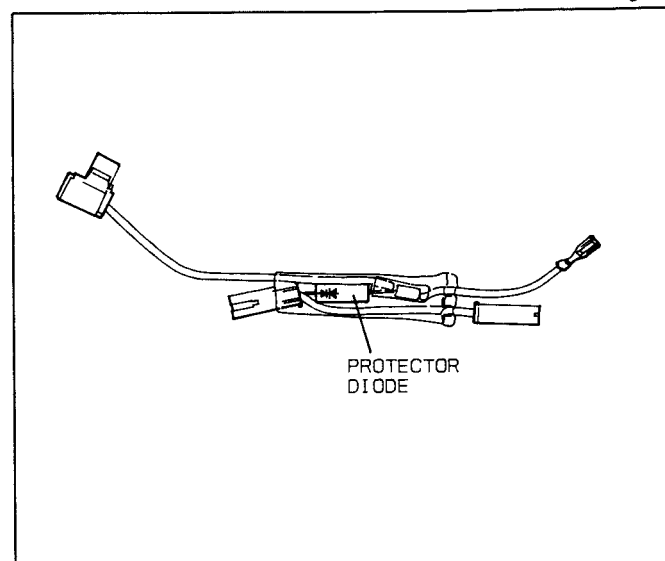

Fig 36
7. Protector diode (Fig. 36)
- (A) Isolate the protector diode assembly from the circuit by disconnecting its leads.
- (B) With the ohmmeter set on the highest resistance scale, measure the resistance across the protector diode terminals. Reverse the meter leads and again observe the resistance reading. A normal protector diode's resistance will be infinite in both directions. It is faulty if it shows continuity in one or both directions.